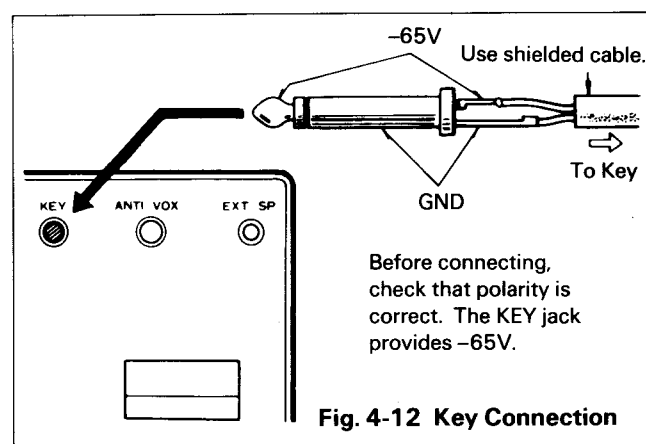

Fig. 4-12 Key Connection
■ KEY CONNECTION (Fig. 4-12)
Your key should be connected as illustrated in Fig. 4-12. When using an electronic keyer, make sure that polarity is correct. Use shielded line from the key to transceiver.